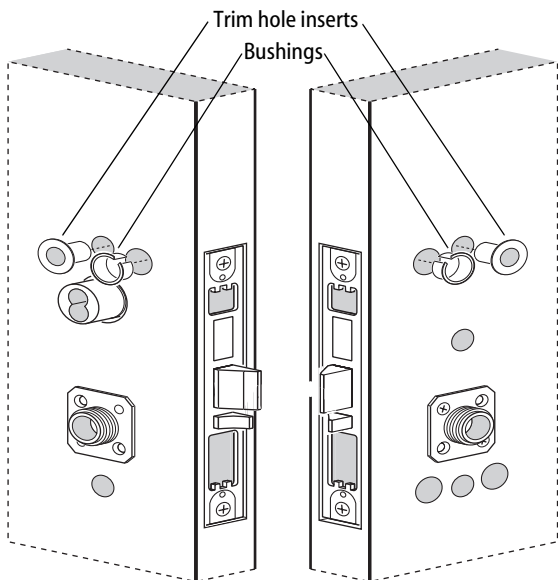

Figure 10 Installing the trim hole inserts and bushings
- 1 Insert the two trim hole inserts into the upper trim hole on each side of the door, as shown in Figure 10.
- 2 Insert the two bushings into the harness hole on each side of the door, as shown in Figure 10.